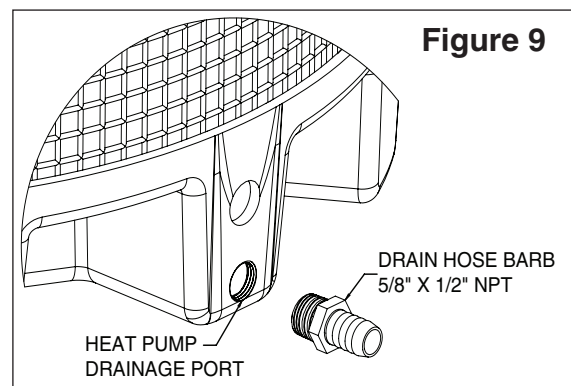

Figure 9
1. Thread the drain hose barb into the threaded drainage port in the base of the heater. See **Figure 9**.